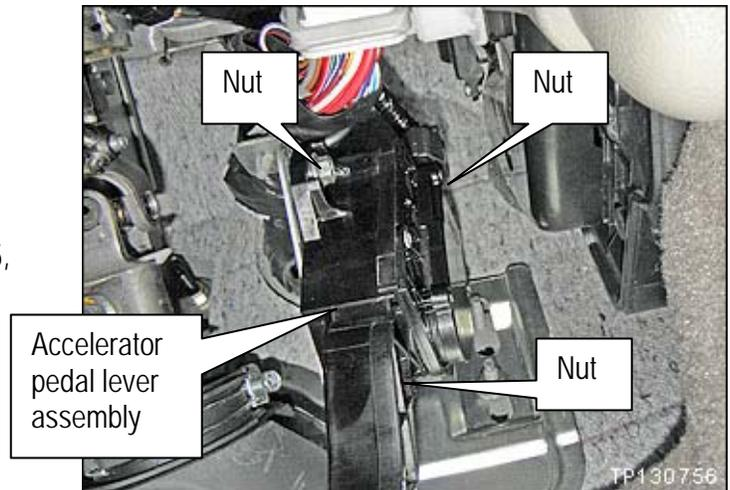
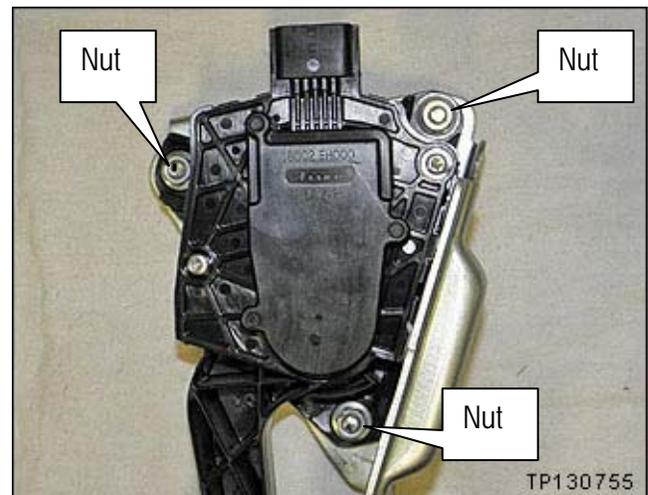

Figure A5
Figure A6
- 2 of the nuts are not visible in Figure A5, see Figure A6.